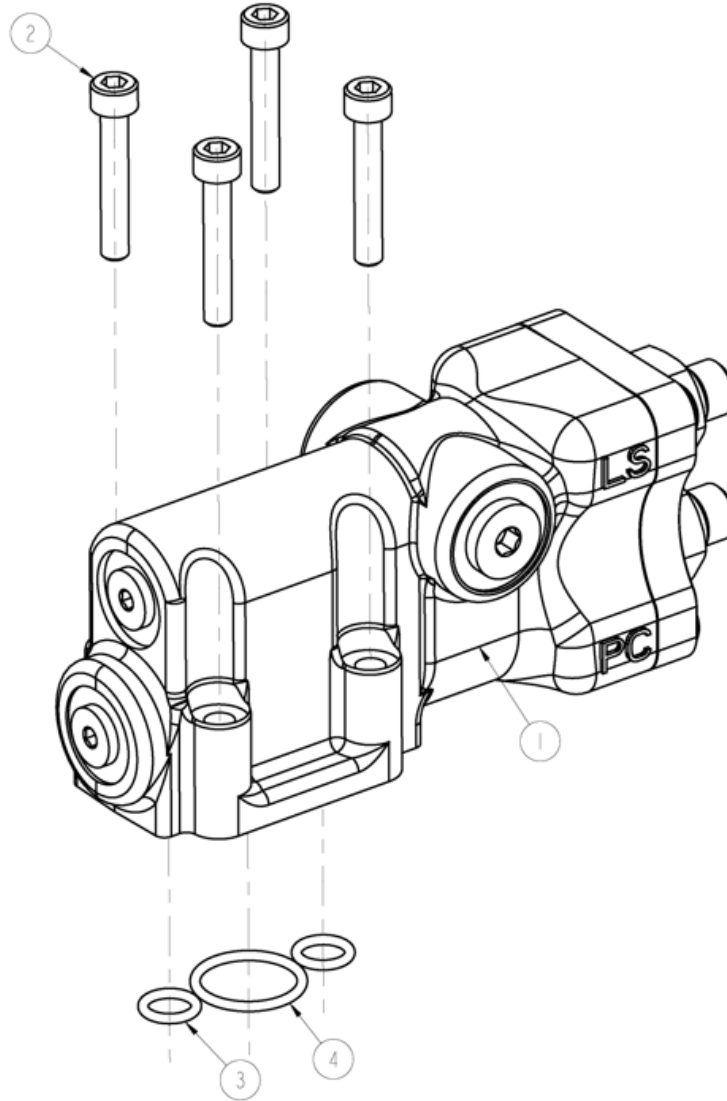

Figure 20
3. Remove the screw plug (Figure 20 ⑤).
4. Take out the pressure compensator valve spool (Figure 20 ⑬) and the flow compensator valve spool (Figure 20 ④).
5. Remove the four screws at the adjusting end of the compensator (Figure 20 ⑫).
6. Remove the assembly of the adjusting rod (Figure 2 ⑦), the lock nut (Figure 20 ⑧), the retaining ring (Figure 20 ⑨), the O-ring (Figure 20 ⑩) and the plate (Figure 20 ⑪).
7. Take out the pressure compensator spring (Figure 2 ⑥) the flow compensator spring (Figure 20 ③) and the spring seat (Figure 20 ②).
1. Install the pressure compensator valve spool (Figure 20 ⑬) and the flow compensator valve spool (Figure 20 ④). The rounded ends should face inward. The pressure compensator valve spool has fewer ring grooves and is shorter, while the flow compensator valve spool has more ring grooves and is longer.
2. Install the screw plug (Figure 20 ⑤) and tighten it with a torque of 5.7 - 6.9 Nm.
3. Install the pressure compensator spring (Figure 20 ⑥), the flow compensator spring (Figure 20 ③) and the spring seat (Figure 20 ②).
4. Install the assembly of the adjusting rod (Figure 20 ⑦), the lock nut (Figure 20 ⑧), the retaining ring (Figure 20 ⑨), the O-ring (Figure 20 ⑩) and the plate (Figure 20 ⑪).
5. Install the four screws at the adjusting end (Figure 20 ⑫) and tighten them with a torque of 14.4 - 17.6 Nm.
6. Install the side screw plug (Figure 20 ⑭) and tighten it with a torque of 13.5 - 16.3 Nm. Install the damping plug (Figure 20 ⑬⑭) and tighten it with a torque of 4 - 6 Nm.